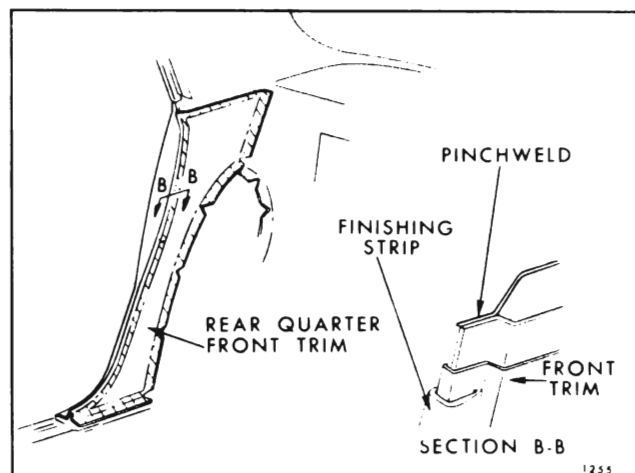

Fig. 14-33—Rear Quarter Trim Assembly
5. On “A” body styles, with putty knife or other suitable flat-bladed tool, detach trim assembly at cemented areas indicated in Fig. 14-33 and remove trim assembly.